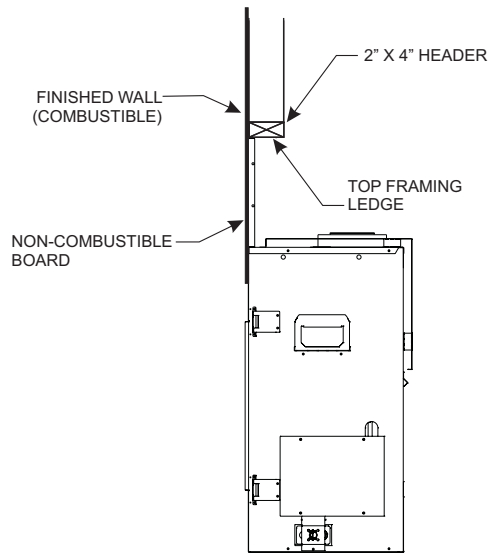

Figure 30
- Non-Combustible board installed flush to face (framing brackets at 1/2-inch set back). See Figure 30.